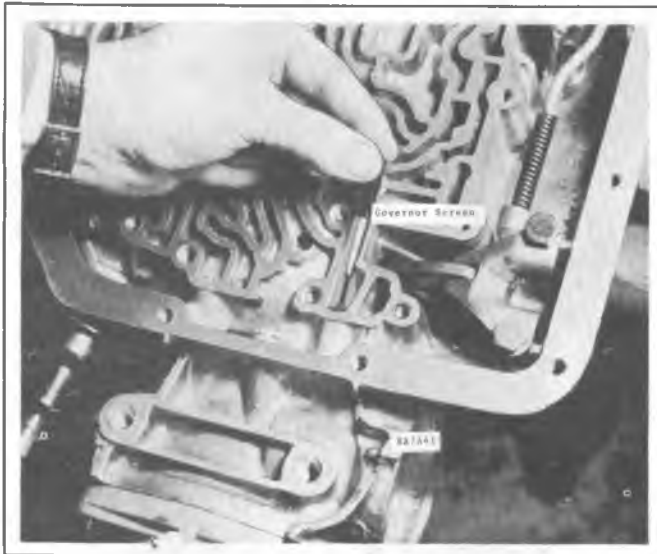

Figure 350C-150 Installing Governor Feed Screen
- b. Use 7 lbs. of feeding force on the reamer. See Figure 350C-165.